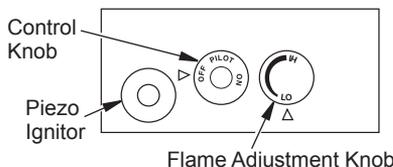

Figure 15 - Setting Control Knobs
- Press in and turn control knob clockwise ↻ to the OFF position (see Figure 15).
- Wait five (5) minutes to clear out any gas. If you then smell gas, STOP! Follow "B" in the safety information in column 1. If you don't smell gas, go on the next step.
- Press in and turn control knob counter-clockwise ↺ to the PILOT position. Press in control knob for five (5) seconds (see Figure 15).